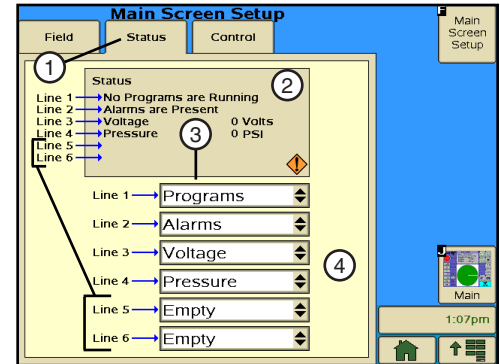

Figure 19-1 1. Status Tab
1. To set the Main screen status lines, push **Setup, Main Screen Setup, Status, Status** to display the status line fields. Refer to Figure 19-1.